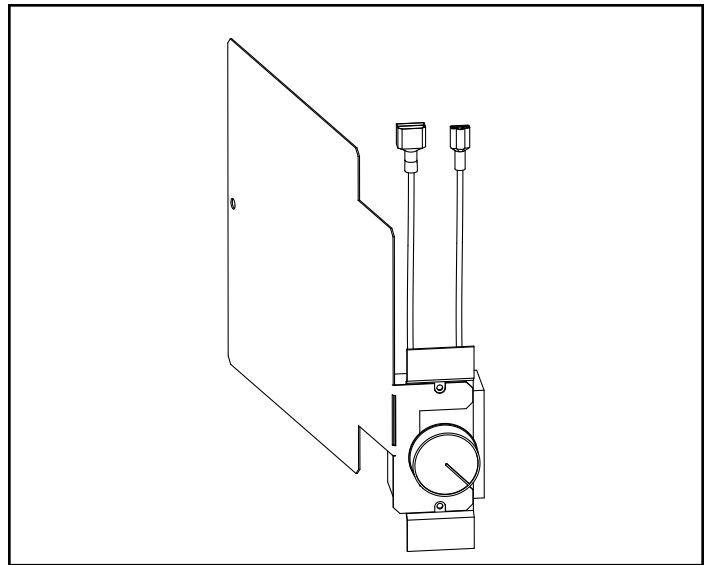

Figure 4 - Rheostat Dimmer
5. Insert wire from light socket through opening from bulb delete and direct toward side of firebox. As wire drops to side, it should become visible through the side access panel, seat bulb socket into opening. Attach with two (2) screws removed from bulb delete plate. Repeat steps for opposite side.
6. Remove knob from rheostat dimmer, using two (2) screws from fastener pack, attach dimmer to side access panel. See Figure 4.